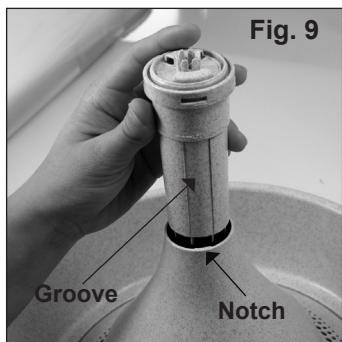

Fig. 9
- 8) Align the side grooves of the Filter Housing with the inner notches of the cone opening. The Filter Housing should slide easily into place. Turn housing a quarter turn to the right (clockwise) until it locks in place. (Fig. 9)